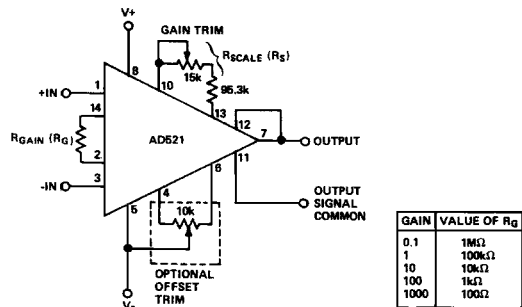

Figure 2. Operating Connections for AD521
- Gains below 1 are realized by adjusting the gain setting resistors as shown in Figure 2 (the resistor, R_S between pins 10 and 13 should remain $100k\Omega \pm 15\%$, see application note 3). For best results, the input voltage should be restricted to $\pm 10V$ even though the gain may be less than 1. See Figure 6 for gains above 1000.
- The resistors between pins 10 and 13, (R_{SCALE}) must equal $100k\Omega \pm 15\%$ (Figure 2). If R_{SCALE} is too low (below $85k\Omega$) the output swing of the AD521 is reduced. At values below $80k\Omega$ and above $120k\Omega$ the stability of the AD521 may be impaired.
The offset trim adjustment (pins 4 and 6, Figure 2) is associated primarily with the output offset. At any gain it can be used to introduce an output offset equal and opposite to the input offset voltage multiplied by the gain. As a result, the total output offset can be reduced to zero.